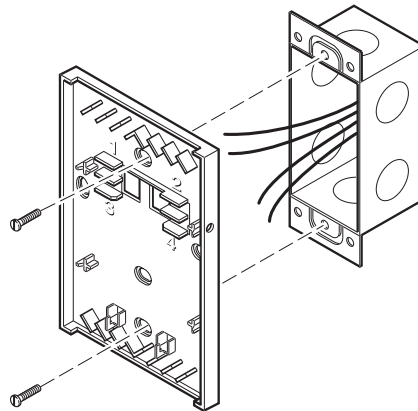

Figure-4 2 x 4 Electrical Box Mounting.
4. Using two 6-32 x 5/8 in. flat head screws (not provided), mount base plate to electrical box (Figure-4).